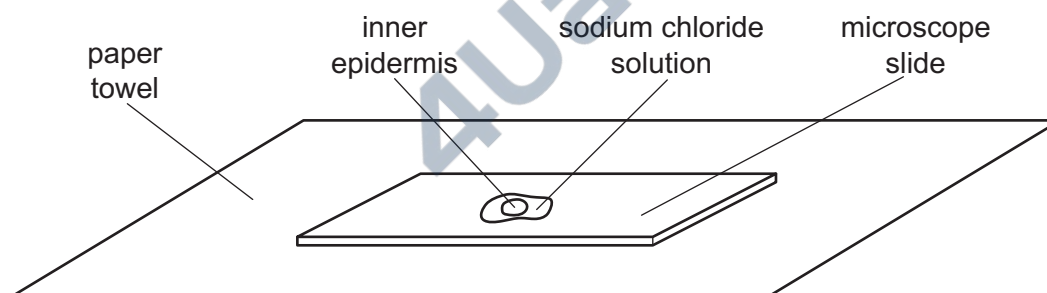

Fig. 1.1
- step 5 Put the inner epidermis on the microscope slide, as shown in Fig. 1.1. If the piece of epidermis is folded, you may need to add more drops of solution. The inner epidermis will float and can then be unfolded.